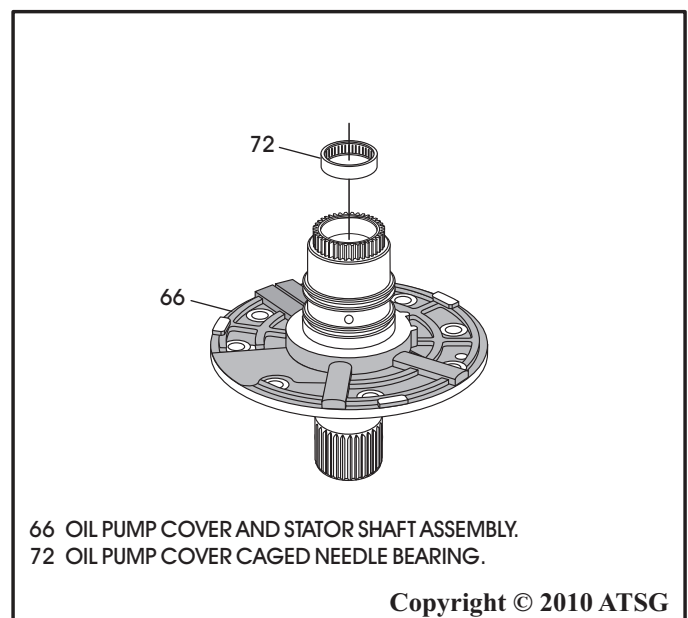

Figure 98
9. Inspect the caged needle bearing in the pump cover, as shown in Figure 98.